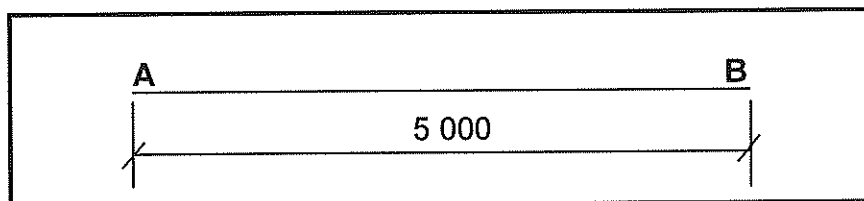

FIGURE 3.5
3.5 FIGURE 3.5 shows a drain pipe. Calculate the fall of the drainpipe between point A and B if the slope is 1 : 60.